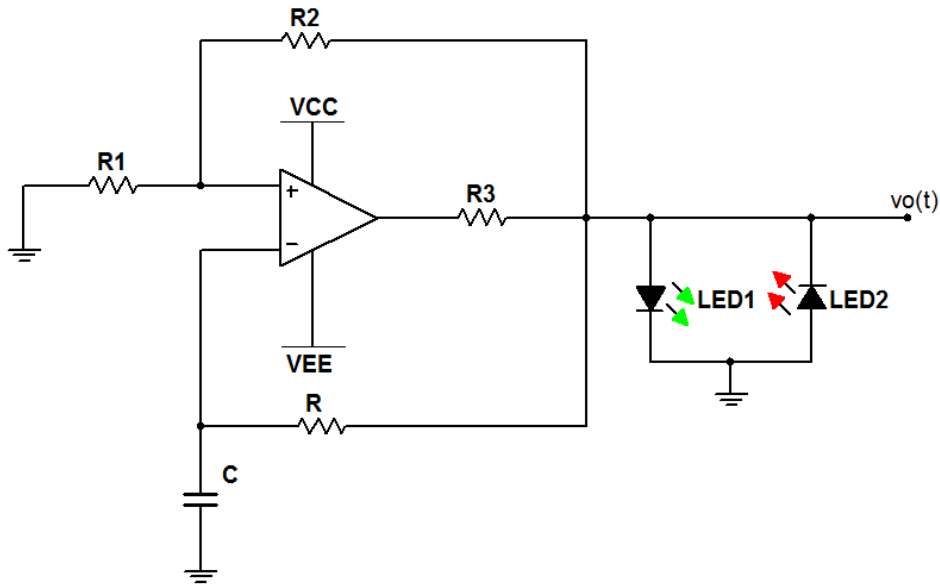

Figure 2.13: Circuit for Problem 2.11
An operational amplifier serves as the basis of the *square wave oscillator* pictured in Figure 2.13. The oscillation period is $T = 2RC \ln(1 + 2(R_1/R_2))$.
Enter the circuit of Figure 2.13 on the previous page using the TL072CP op amp model. Place the V_{CC} and V_{EE} power supplies and set their values to +15 V and −15 V. Use LED_green and LED_red for the LEDs.
1. Build the circuit of Figure 2.13 on page 91. Use the NI ELVISmx Oscilloscope to display $v_o(t)$. Read the frequency indicator underneath the main display; ensure that you display at least two full periods.